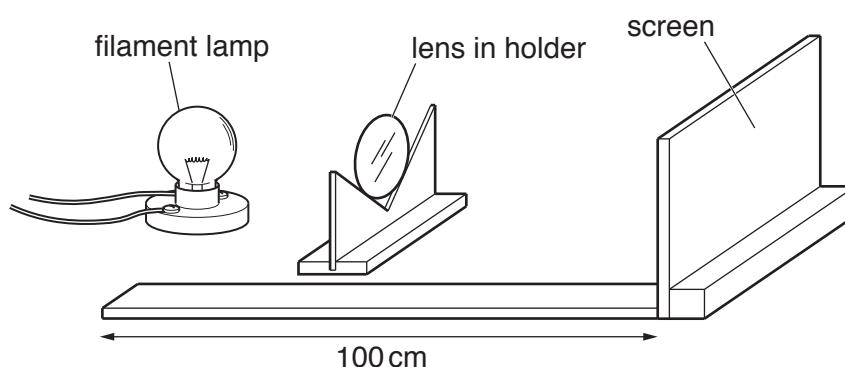

Fig. 3.1
2. An image of the lamp filament will be formed on the screen. The apparatus should be set up by the Supervisor, as shown in Fig. 3.1. The experiment should be performed in a darkened part of the laboratory.